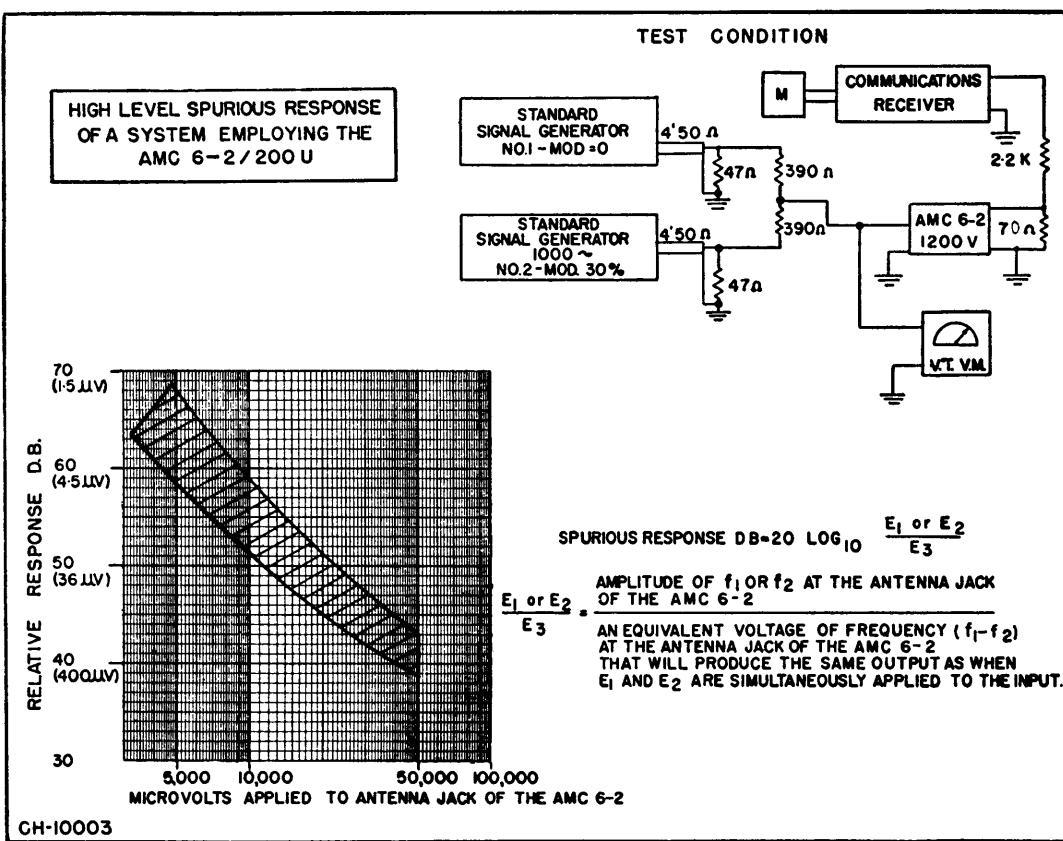

Figure 6-2. INTERMODULATION CHARACTERISTICS
2. Points in the shaded area of Figure 6-2 indicate the maximum amplitudes of the spurious signals which result when any two equal amplitude signals lying in the pass-band are simultaneously applied to the input of the AMC 6-2/200U multicoupler.
A filter is provided and may be inserted into the input of the multicoupler to provide an attenuation of not less than 35 db at frequencies below 1.5 mc/s with no appreciable change in the multicoupler characteristics in the 2.5 to 30 mc/s range. (See Figure 6-2.) Insertion loss at 2 mc/s: 3 db; between 2.5 to 30 mc/s: nil. By means of this filter, the increase in spurious response normally produced when the multicoupler is operated near powerful "broadcast" transmitters, is greatly reduced.
| Model Number | Type of Input | Input Impedance | Number of Outputs | Cf Correction Factor for Figure 6-2Use 1.0 unless otherwise stated | S.G. Settings for Table 5-2 |     |